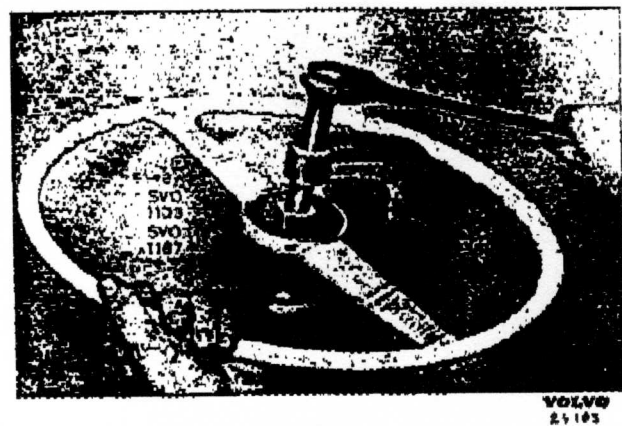

Fig. 25. Fitting the steering wheel
3. Pull off the steering wheel, see Fig. 25. Use puller SVO 2368 (previously number SVO 1185 B) together with spacer SVO 1103 and claw SVO 1187. Spacer SVO 1453 and claw SVO 1454 can also be used.